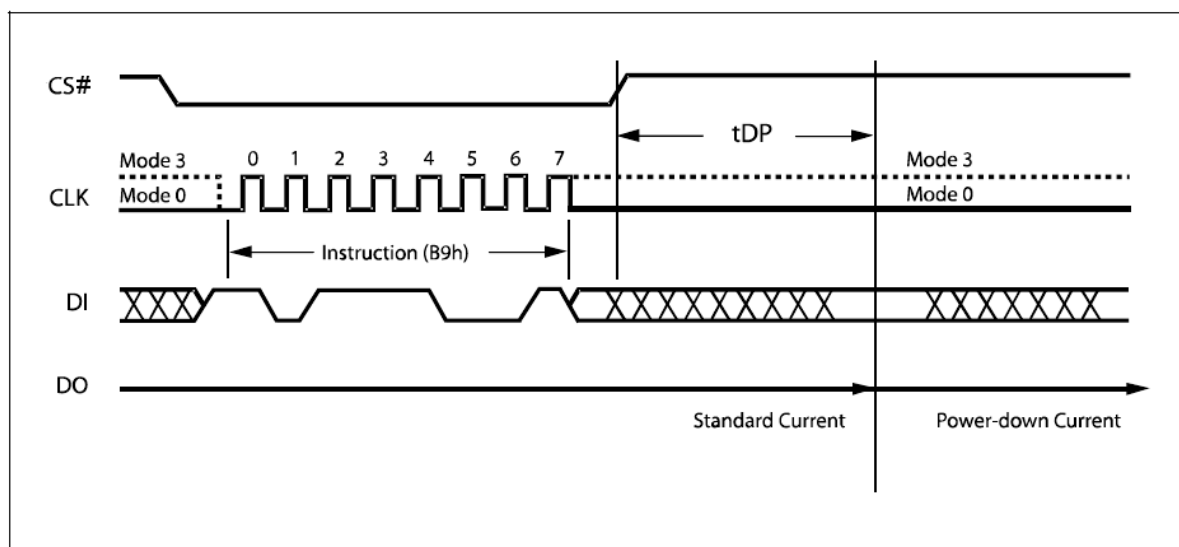

Figure 25. Deep Power-down Instruction Sequence Diagram
The instruction sequence is shown in Figure 25. Chip Select (CS#) must be driven High after the eighth bit of the instruction code has been latched in, otherwise the Deep Power-down (DP) instruction is not executed. As soon as Chip Select (CS#) is driven High, it requires a delay of t_{DP} before the supply current is reduced to I_{CC2} and the Deep Power-down mode is entered.